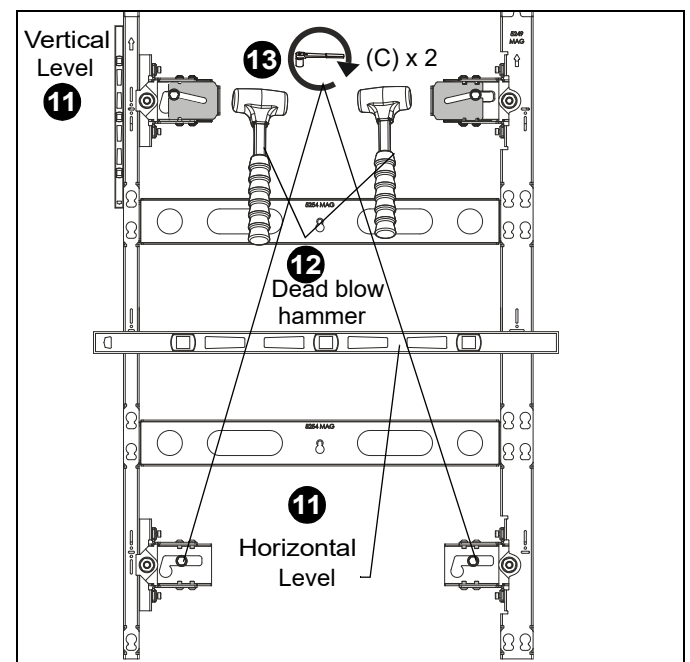

Figure 13
13. Tighten the bottom lag screws (C) to allow for leveling adjustment if needed later. (See Figure 13)